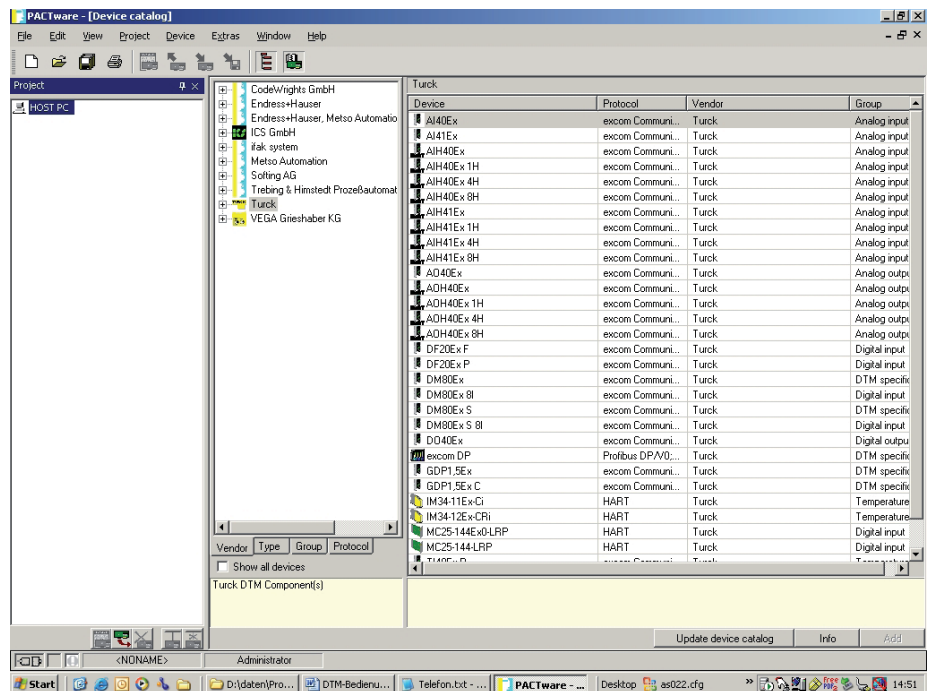

Fig. 1 Empty project window after PACTware™ is started
- ❑ **Start the PACT ware™ frame application (Fig. 1).**
In this application the device catalogue may have to be updated in order to accept newly installed DTMs. An empty project window appears in which the host PC represents the hardware platform of the PACTware™ application (see Fig. 1).